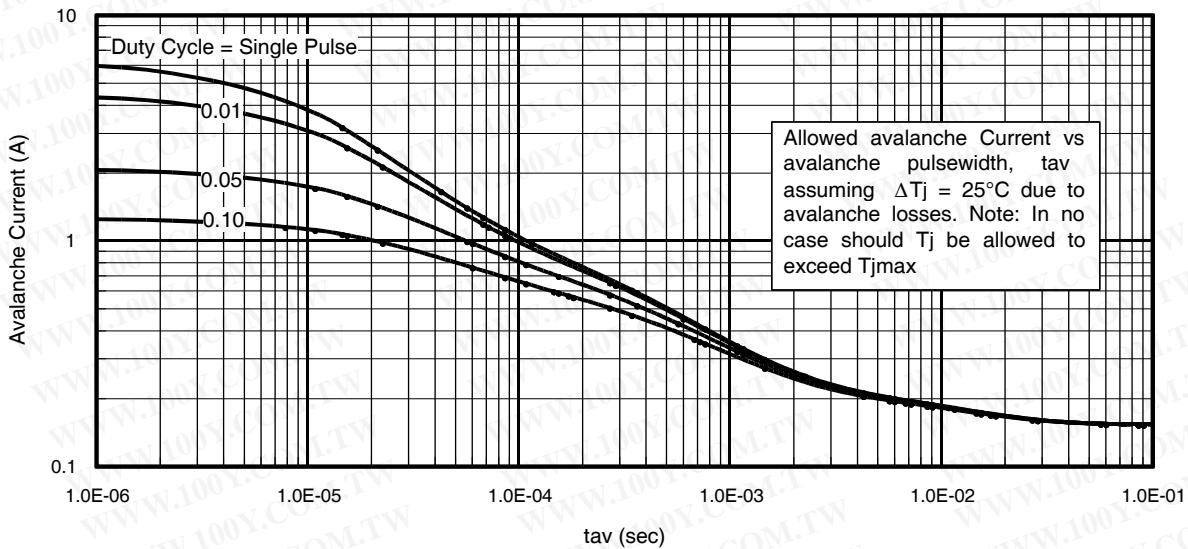

Fig 14. Typical Avalanche Current Vs. Pulsewidth
| I_{AR} | Avalanche Current ⑤ | See Fig. 14, 15, 17a, 17b | A | mJ |
- ① Repetitive rating; pulse width limited by max. junction temperature.
- ② Starting $T_J = 25^\circ\text{C}$, $L = 0.32\text{mH}$, $R_G = 25\Omega$, $I_{\text{AS}} = 13\text{A}$.
- ③ Pulse width $\leq 400\mu\text{s}$; duty cycle $\leq 2\%$.
- ④ R_θ is measured at T_J of approximately 90°C .
- ⑤ Limited by $T_{j\text{max}}$. See Figs. 14, 15, 17a, 17b for repetitive avalanche information
Notes on Repetitive Avalanche Curves , Figures 14, 15:
7. $\Delta T = \text{Allowable rise in junction temperature, not to exceed } T_{jmax} \text{ (assumed as } 25^\circ\text{C in Figure 14, 15).}$